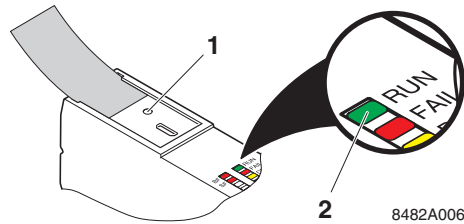

Figure 3-9 Reset button (1, concealed)
- Hold down the reset button and switch the supply voltage on. Release the reset button only after the RUN LED flashes quickly (item 2 in Figure 3-9).